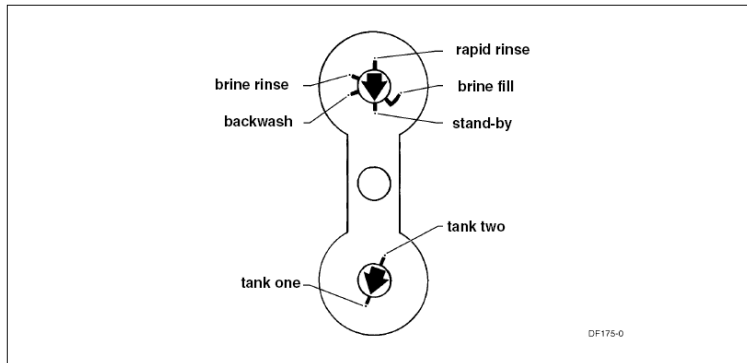
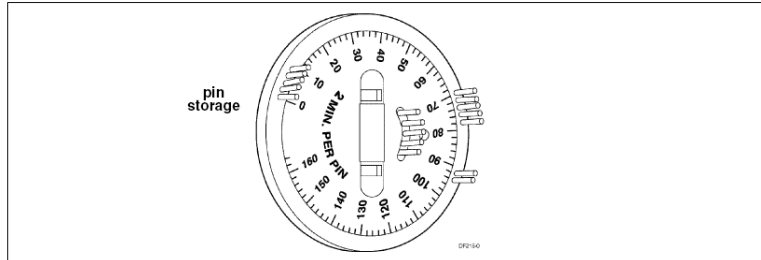

Figure 3: Control Valve Position Indicators
Figure 5: Program Wheel
- *Figure 3, page 7* shows the valve **In Service** position with tank one supplying conditioned water and tank two on standby.**NOTE:** Make sure the meter cable is not inserted in the meter dome. Swing the timer out to expose the program wheel (to swing timer out) grab onto the lower right corner of timer face and pull outward. See *Figure 5, page 8*.
1/30 RPM has 164 minute **Regeneration Time**. See *Figure 5*.
The program wheel in *Figure 5* is **In Service** position. Looking at the numbered side of the program wheel, the group of pins starting at zero determines the length of time the unit backwashes.